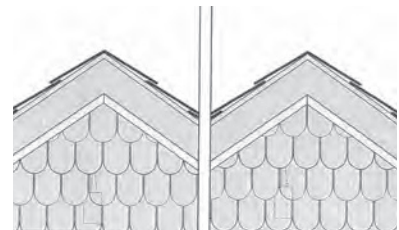

Fig.30
- b. Carefully check alignment of Round Cuts to center full or partial rounds as needed and cut (see Figure 30).